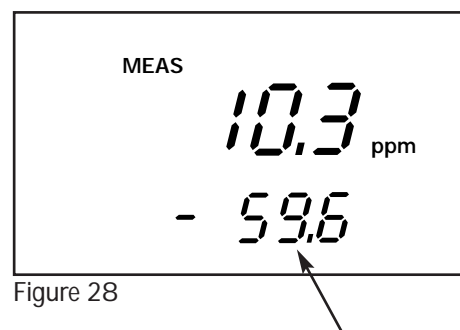

Figure 28
5. To toggle between pH and mV in the pH 510, or to toggle between pH, mV and ion in the Ion 510, press the **MODE** key. —See Figure 28.